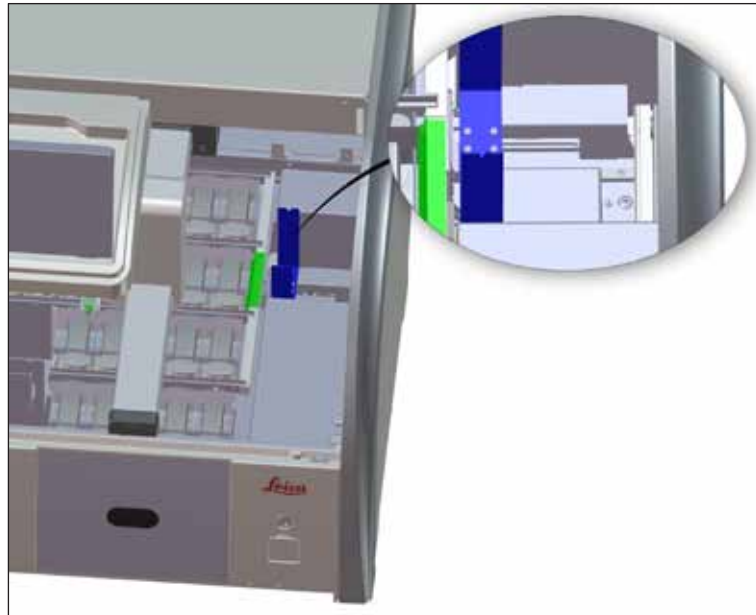

Fig. 96
- Regularly check the transfer station (→ "Fig. 96") for reagent residue and, if necessary, clean it using a commercially available, mild cleaning agent with a neutral pH value.